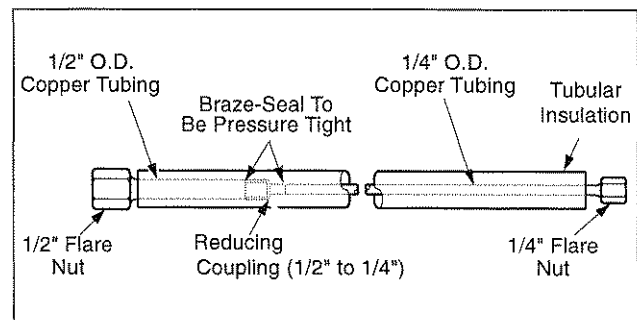

Figure 8. LN₂ Supply Tube Assembly
1. Connect one end of the LN₂ supply tube (insulated coil of 1/4 in. OD tubing, refer to Figure 8) to the liquid source and the other end to the inlet fitting on the back of the control unit.
1. Connect one end of the LN₂ supply tube (insulated coil of 1/4 in. OD tubing, refer to Figure 8 on page 4) to the liquid source and the other end to the inlet fitting on the back of the control unit.